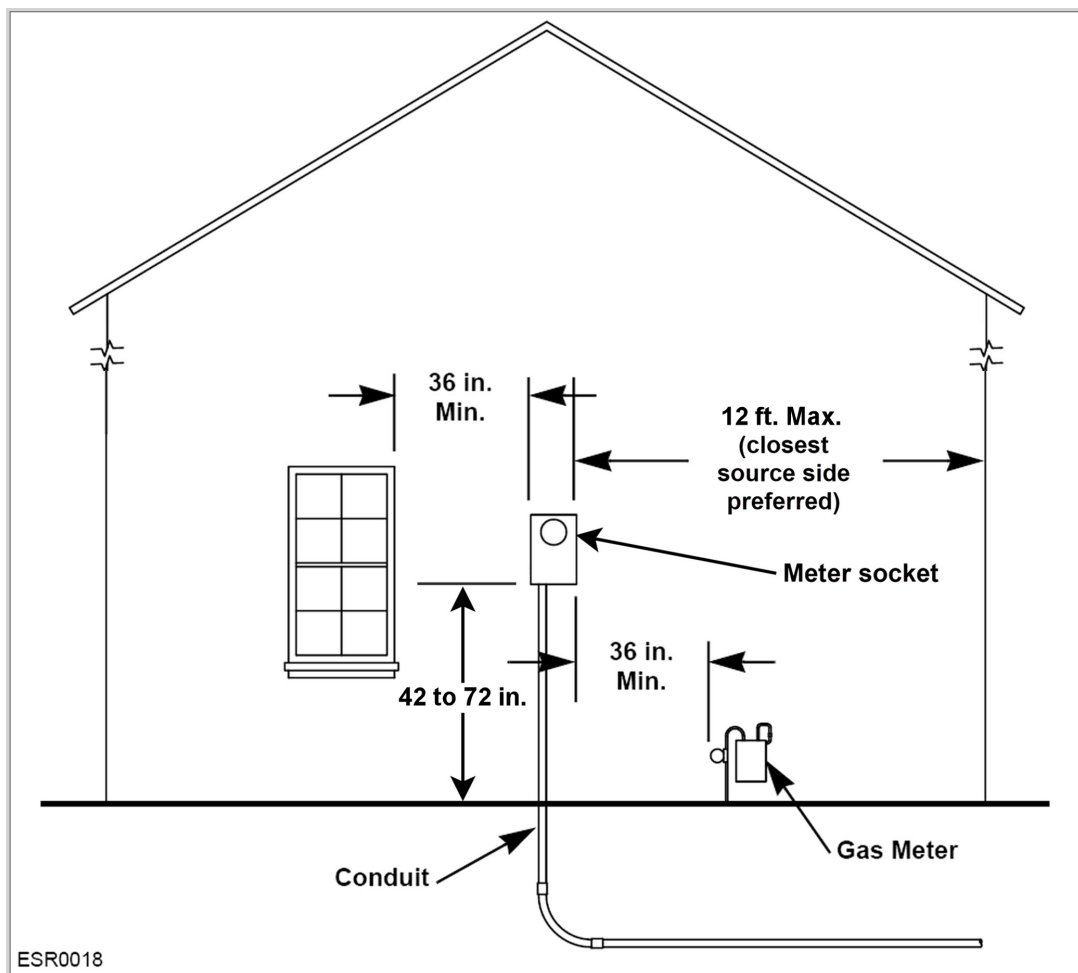

Figure 46: Underground Service Extension
Figure 46 shows a typical installation of an underground service extension to the house.
- The service entrance riser must be in line with the left side of the entrance knockout. (See **Figure 46**.) For detailed clearance requirements, see Section 5, *Clearances*.